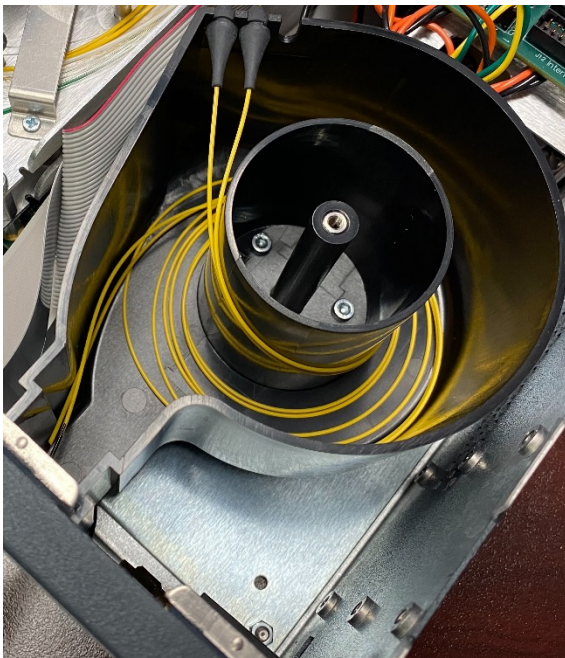
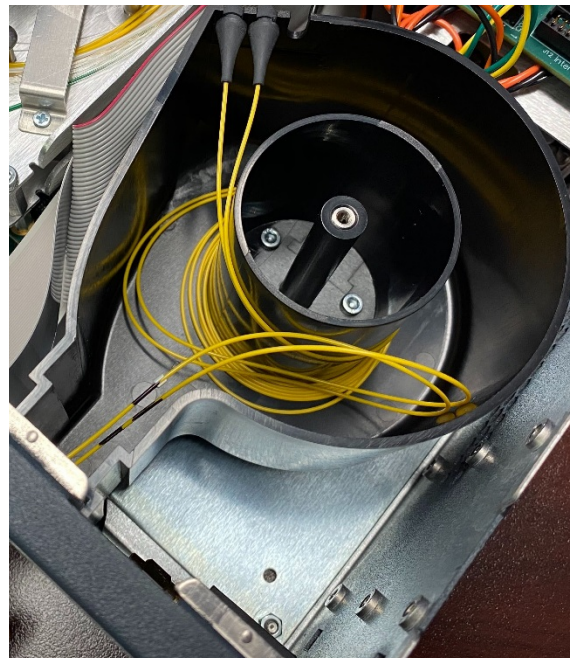

Figure 17: Exposed view of good output fiber management
Figure 18: Exposed view of poor output fiber management
7. Reinstall the output panel with the thumbscrews. To avoid damaging the fibers, keep a clear line of sight to the fiber as it spools back inside the unit. It should lay flat and spool back in without resistance or twisting. Figure 17 shows an exposed view of good output fiber management. Figure 18 shows poor fiber management.